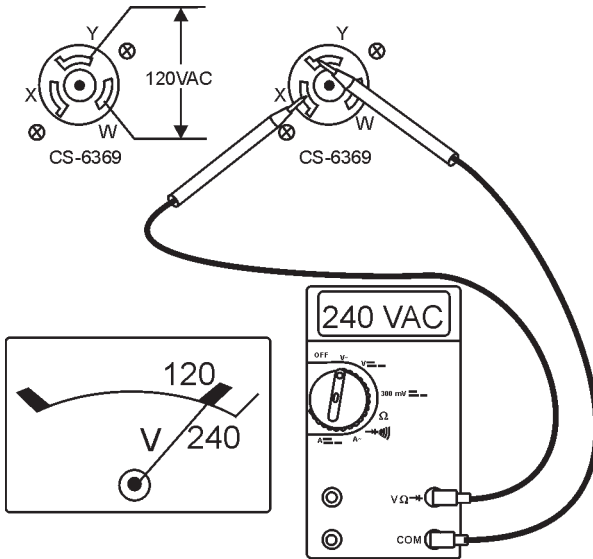

Figure 23. 120/240 CS-6369 Receptacle
- The CS-6369 receptacle is a dual voltage receptacle (120/240 volts). Using an external voltmeter as shown in Figure 23, verify that 120/240 VAC is present at the CS-6369 twist-lock receptacle.